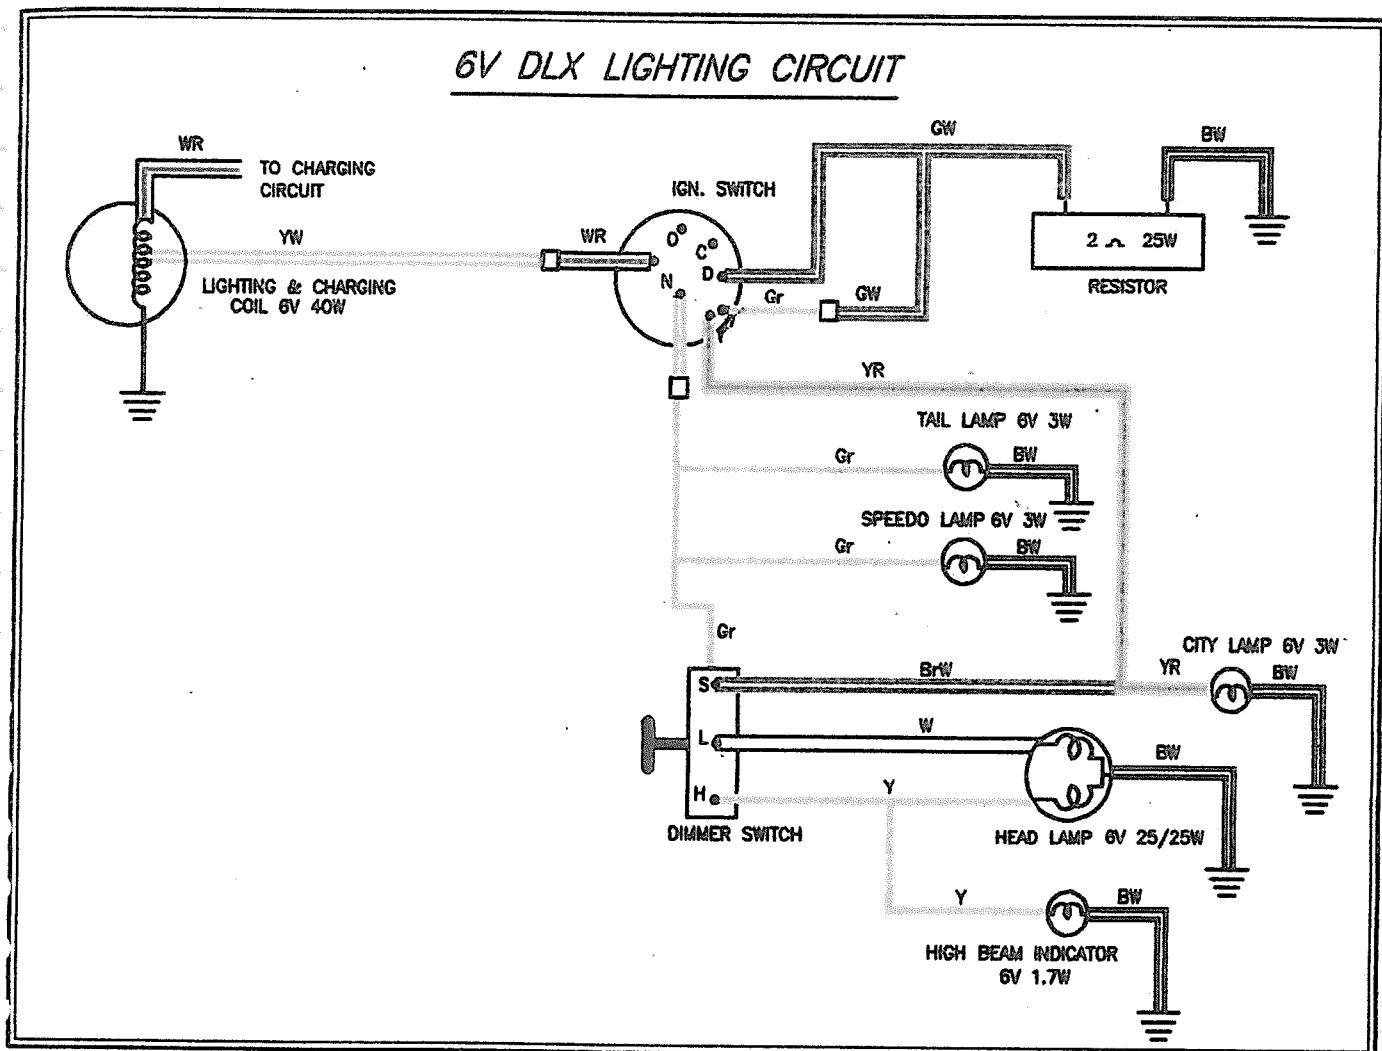

Fig 5.10
In 6V DLX system the lighting/charging coil supplies Alternating Current (AC) to the following bulbs (fig 5.10)